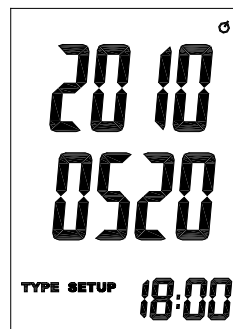

Fig. 4
3. Press **Rec/Enter** button to access the values (Fig. 4). The primary display shows the year, the secondary display shows the month and day, the tertiary display shows the hour and minute.